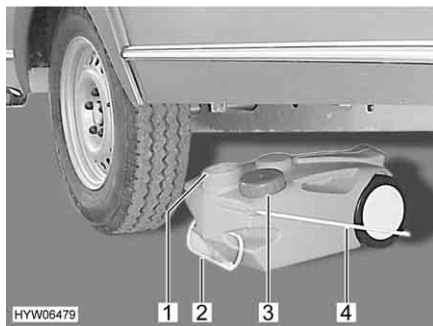

Fig. 194 Waste water tank, mobile
- Use the cap (Fig. 194,3) to close the opening of the waste water tank (Fig. 194,1).
- Use the handle (Fig. 194,2) to pull out the waste water tank.
- Fold the carrying handle (Fig. 194,4) up and upright the waste water tank.